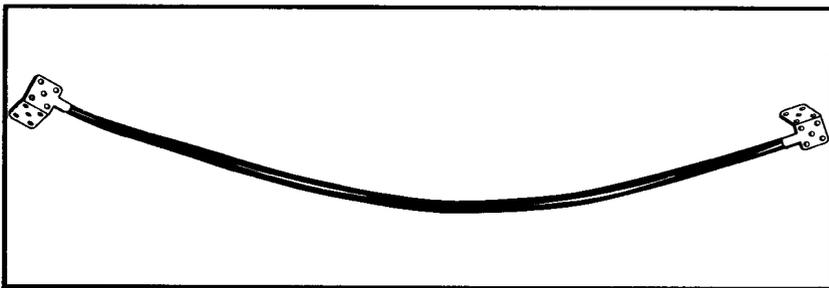

FIGURE 2. Type GH-2 Grounding Harness
3.02 Type GH-2: Used for interconnecting the shields of cables that have encapsulated or taped splices. Consists of two tinned Termi-foil connectors crimped to a No. 14 AWG tinned strand copper conductor insulated with green PVC. The overall length is 20 inches. See Figure 2.